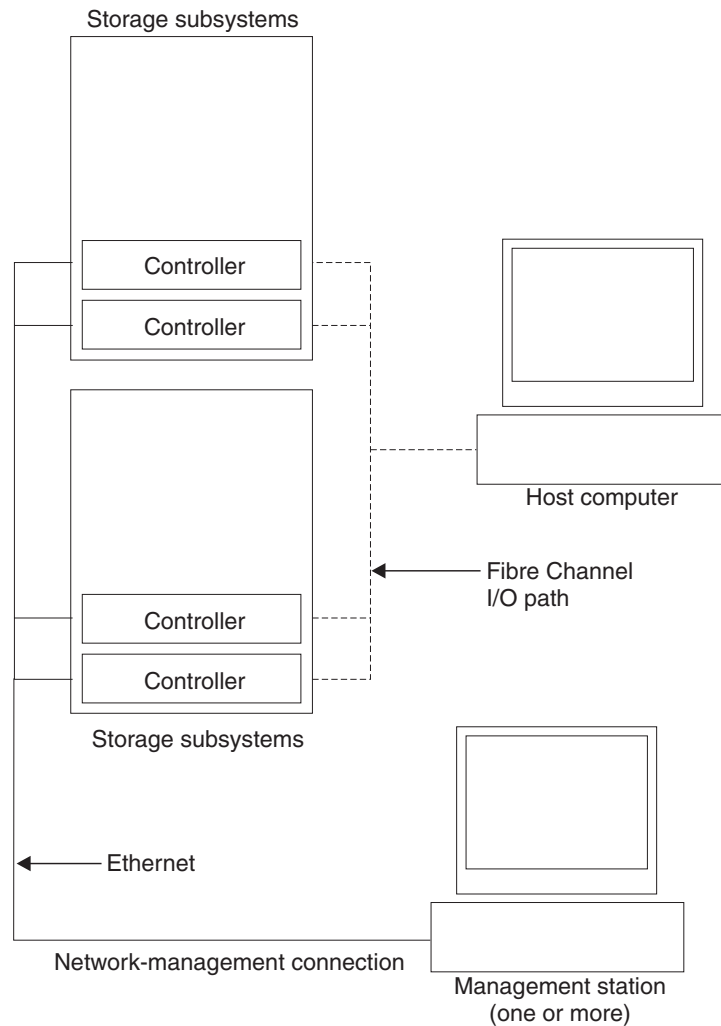

Figure 2. Direct (out-of-band) managed storage subsystems
When you use the direct (out-of-band) management method, you manage storage subsystems directly (out-of-band) over the network through the Ethernet connection to each controller. To manage the storage subsystem through the Ethernet connections, you must define the Internet Protocol (IP) address and host computer name for each controller and attach a cable to the Ethernet connectors on each of the storage subsystem controllers. See Figure 2 on page 7.
Figure 2 shows a system in which storage subsystems are using the direct (out-of-band) management method.